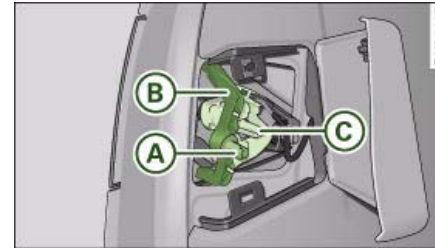

Fig. 258 Boot lid: Removing bulb carrier
- Using the screwdriver, unscrew the nut ⇒ *fig. 258* (A) in the anti-clockwise direction and remove the nut and the retaining clip (B).
- Release the retaining tab (C) and remove the bulb holder from the light unit.